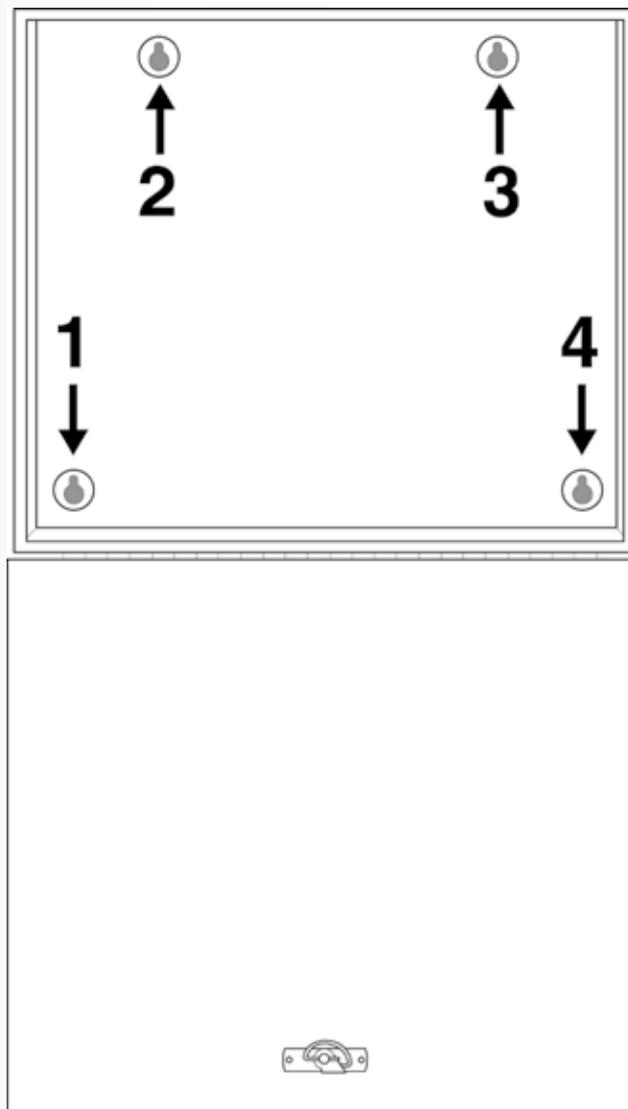

Figure 8. Power supply connection to base station
6. Position the Router unit over the four screws on the wall, so the screw heads go into the four holes on the back of the Router (Figure 8).